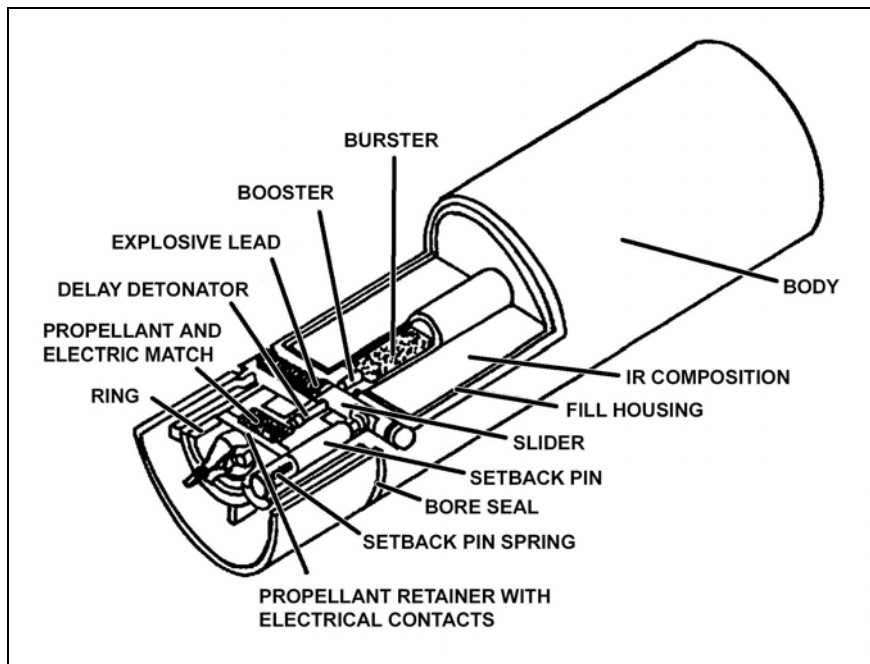

Figure 2-20. M76 infrared screening grenade.
b. **M76 Infrared Screening Grenade.** The M76 infrared screening grenade measures 9.5 inches long by 2.5 inches in diameter. It weighs about 4.5 pounds (Figure 2-20). The launched grenade travels about 30 meters from the vehicle and explodes at a height of 2.5 meters. The grenade uses a central burster to disseminate 3 pounds of brass powder explosively. The smoke cloud obscures the long-wave IR viewer for about 30 to 60 seconds, depending on wind speed and other weather conditions.